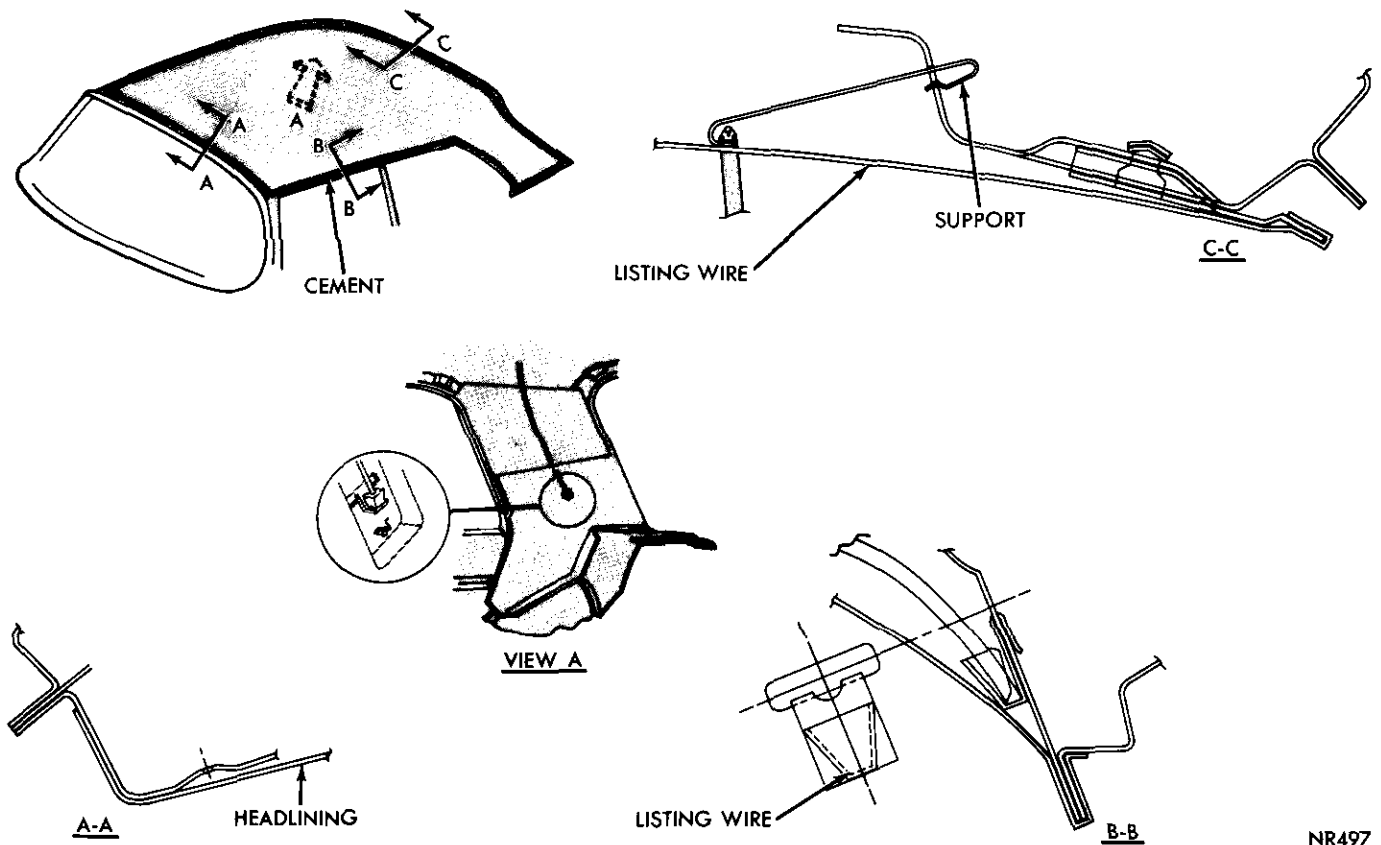

Fig. 6—Headlining Application
(7) Remove listing wires from side rail retainers and support wire from rear listing wire (Fig. 6).
(8) Remove all foreign material and cement from windshield header area and rear window opening areas.
(9) Remove listing wires from headlining and insert in comparable listing of new liner.
(1) Trim excess listing material even with edges of headlining.
(2) Locate centerline of lining and at front and rear ends, cut a small notch as an aid in maintaining headlining alignment during installation.
(3) Locate and mark with chalk the centerline points of windshield and rear window.
(4) Center headlining at rear window and insert rear listing wire to retainer clips on roof rail extensions.
(5) Hook rear listing wire to wire supports (Fig. 6) and stretch material sufficiently to remove all wrinkles while maintaining front to rear alignment. The same amount of material should hang down at both sides.
(6) Insert the remaining listing wires into the roof side rail retainers following the same cautions as in step 5.
(7) Apply cement to windshield header area and when tacky, start at centerline area of windshield and position headlining to cemented area.
(8) Using a dull putty knife, secure liner on barbs at header area, **do not install material at top of windshield posts**, making sure there are no wrinkles and fabric seam is straight.
(9) Locate sun visor mounting bracket screw holes in header and cut holes in headlining slightly larger than attaching screws.